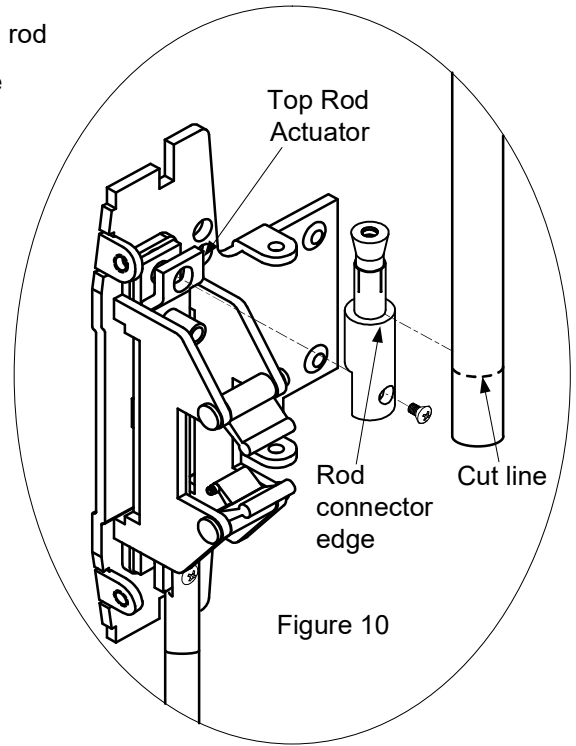

Figure 10
3. Measure and cut the length of the top rod. The length of the top rod is measured from the edge of the connecting rod, to top of the threaded rod on the latch assembly. Mark a cutting line on the rod and remove the excess portion (Figure 10).